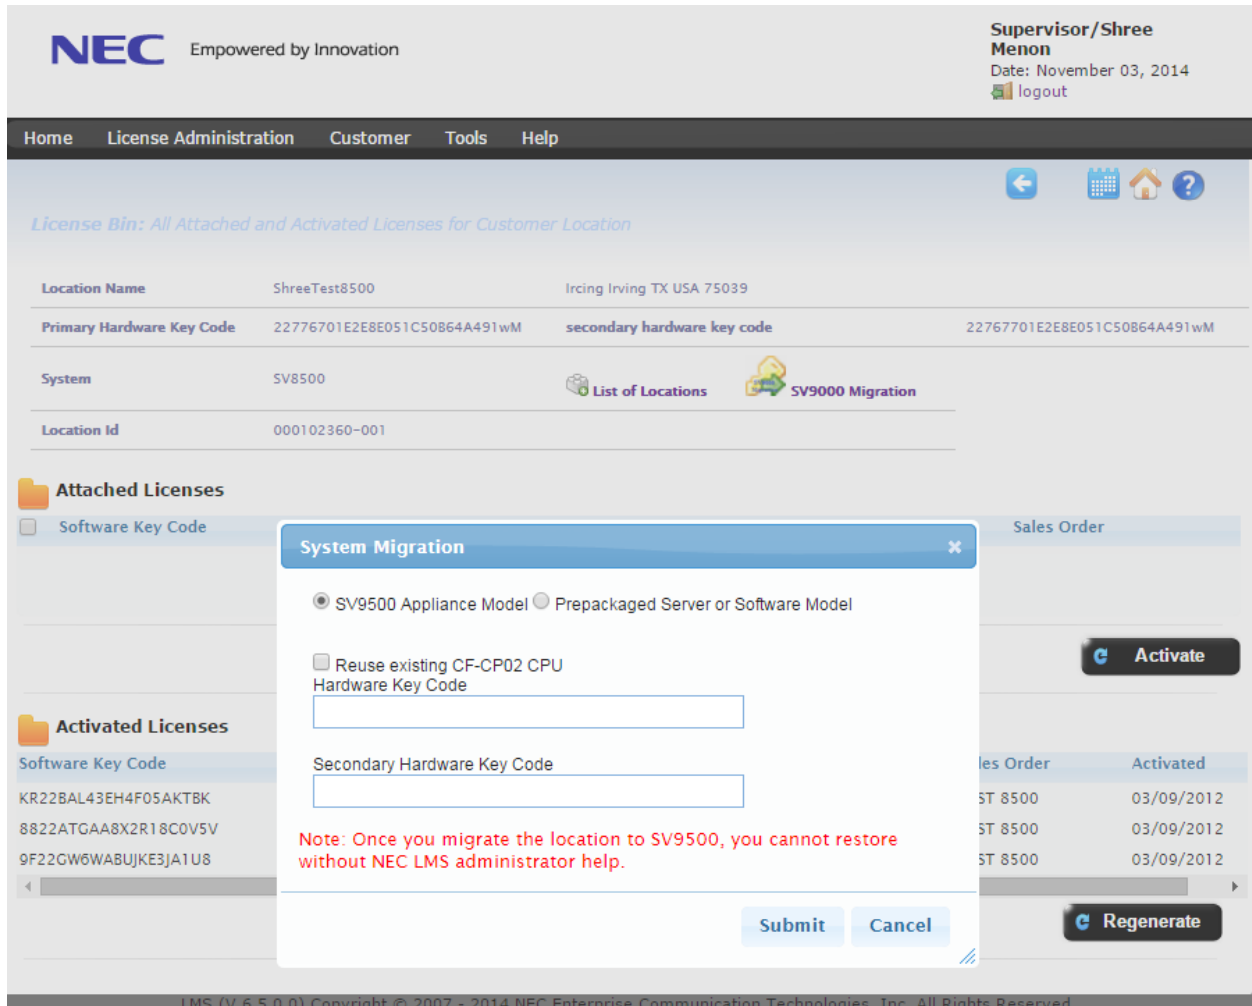

Figure 9
- b) If the checkbox for “Reuse existing CF-CP02 CPU” is unchecked, the LMS requests the user to enter the SV9500 HKC that will replace the SV8500 HKC as shown in Figure 9.